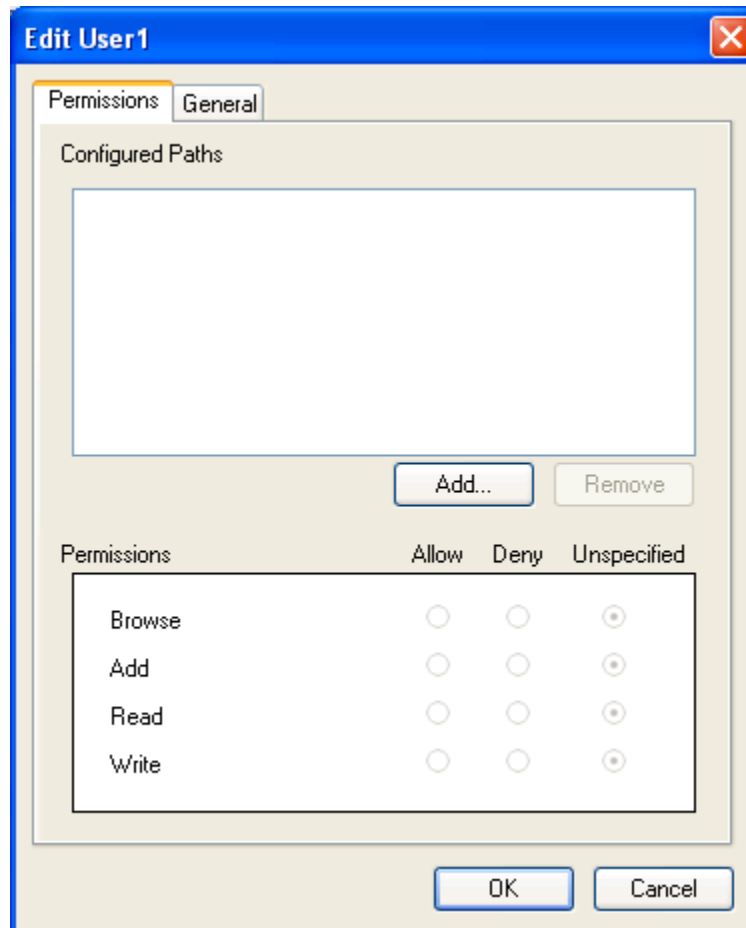

Figure 54 - Edit <Username> Window (Permissions Tab)
6. The **Edit <Username>** window (Figure 54) appears. Follow the instructions in the **Edit User** section for adding permissions.
2. The **Edit <Username>** window (Figure 54) appears.